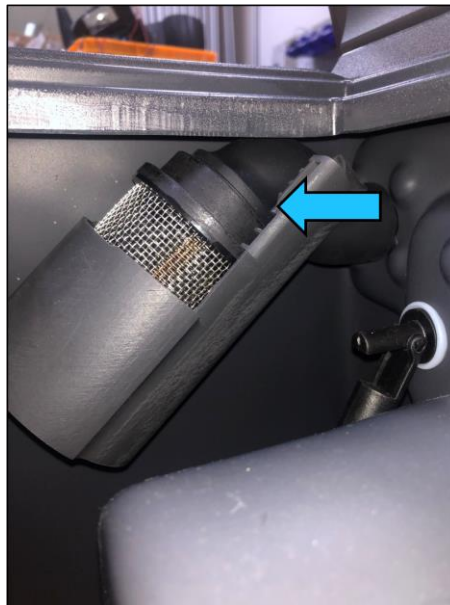

FIGURE 10-5
5. Optional: Remove the float ball cage (Fig. 10-5), check for debris and wash if necessary.